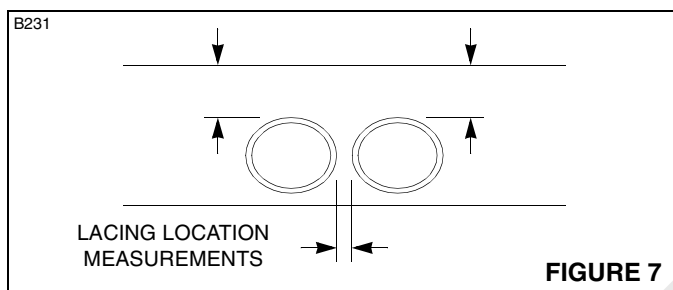

FIGURE 7
2. Measure the exact position of the damaged lacing with relation to the chords as shown in Figure 7. *Record measurements*, as any marks on the chord will be removed during grinding.